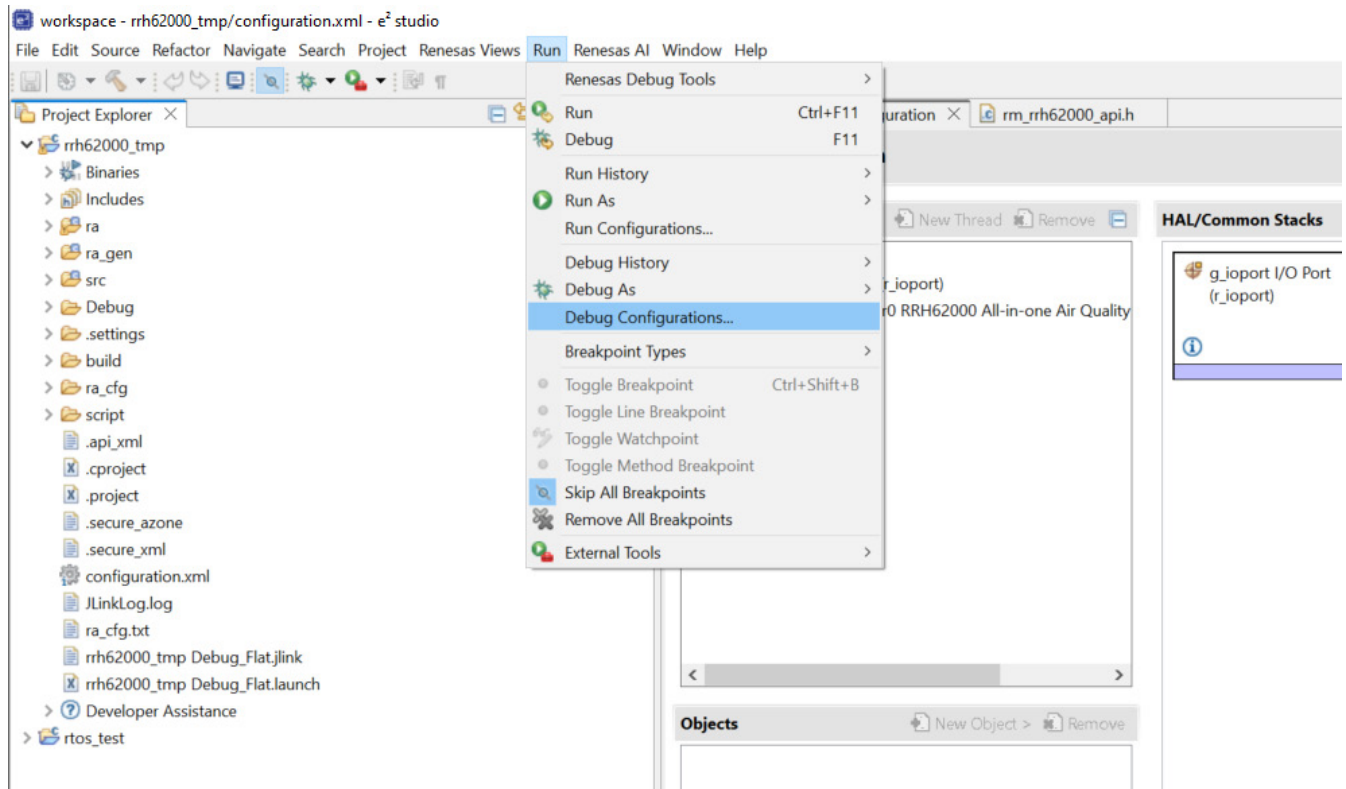
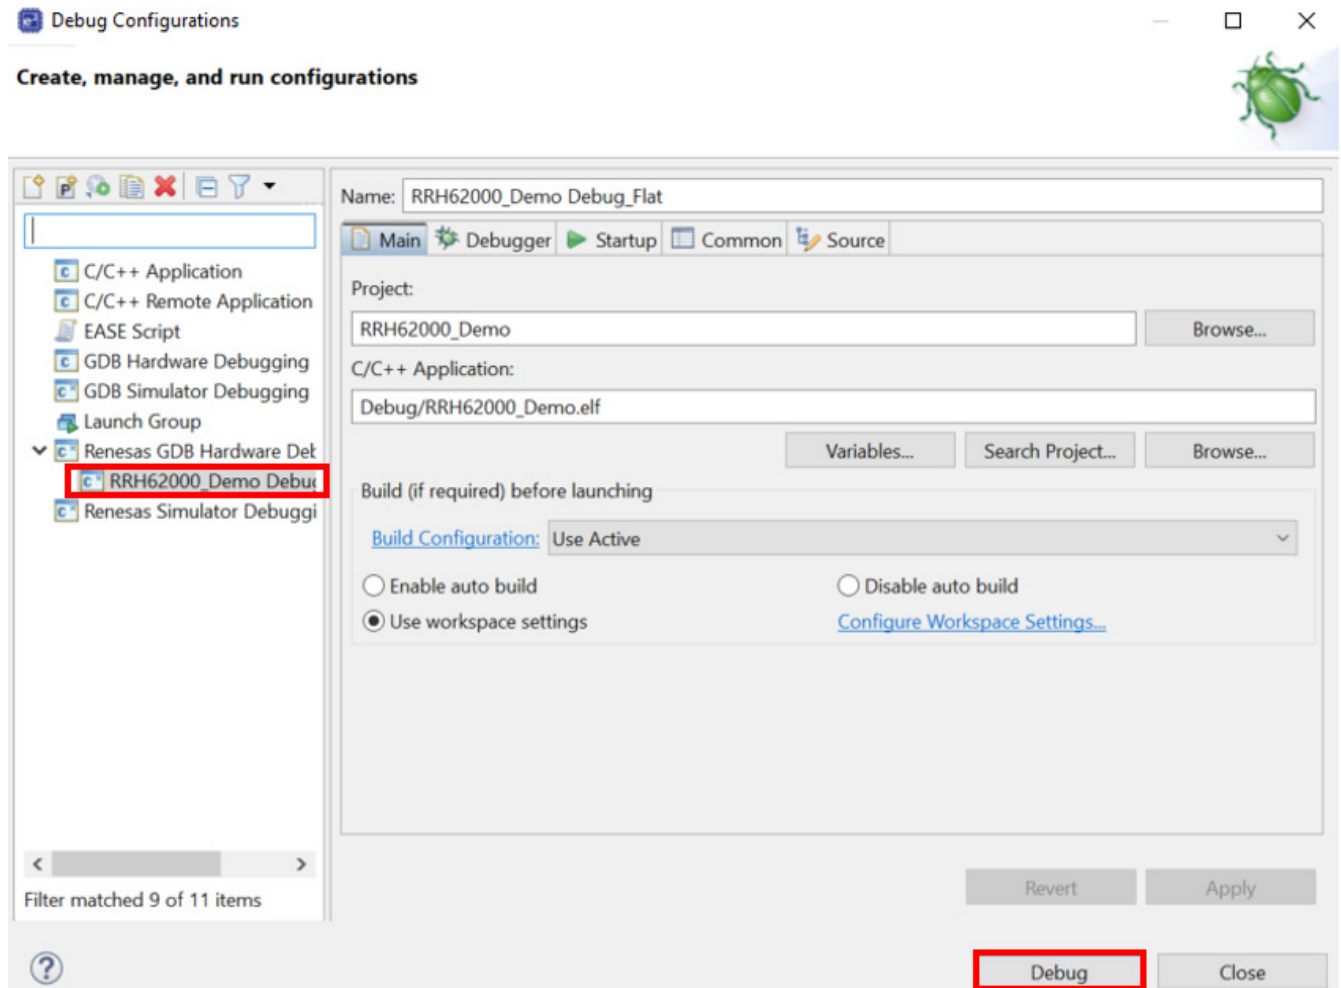

Figure 17. Debug Configuration Selection
Figure 18. Debug Configurations – Start Debug Mode
2. Go to the menu bar and select **Run > Debug Configurations** (see Figure 17). This opens the **Debug Configurations** window (see Figure 18).